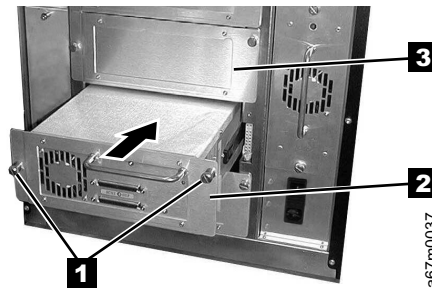

Figure 27. Installing a drive sled
- b. Slide the drive sled **2** into position and tighten the two captive thumbscrews **1** (see Figure 27).